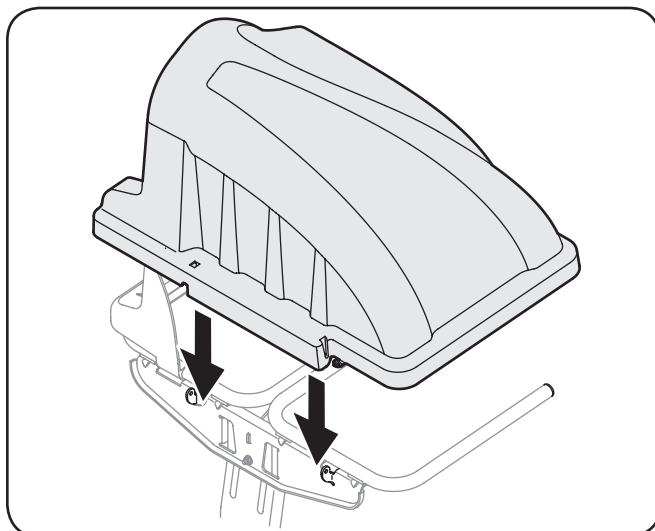

Figure 4-12
5. Install the bagger cover onto the bag support assembly, as seen in Fig. 4-12. The plastic cover goes inside of the two mounting tabs.